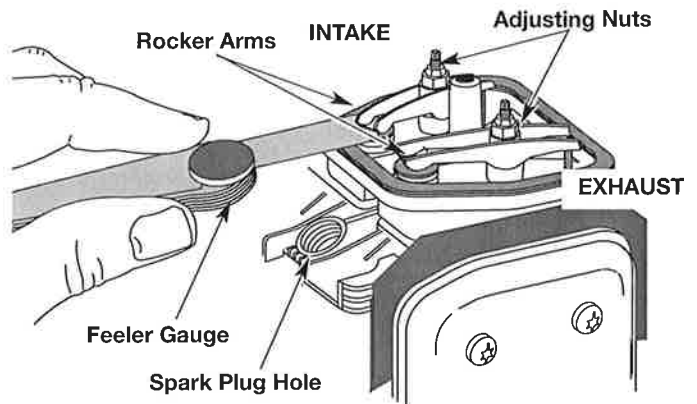

Fig. 29
- The piston is at the top of its travel while looking in the spark plug hole (Fig. 29).
7. Slide the feeler gauge between the rocker arm and the valve return spring. Measure the clearance between the valve stem and rocker arm (Fig. 29). Measure both the intake and exhaust valves. The recommended clearance for both intake and exhaust is .003 – .006 in. (.076 – 0.152 mm). Use a standard automotive .005 in. (0.127 mm) feeler gauge. The feeler gauge should slide between the rocker arm and valve stem with a slight amount of resistance, without binding. See Figures 29 and 30.